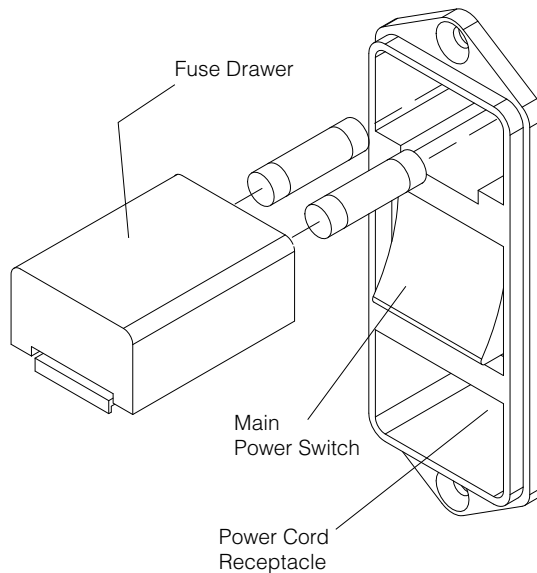

Figure 5-8. Power Connections
1. The power cord connection is located on the upper right corner in the rear of the unit (see Figure 5-8).
2. Determine which power cord you need (this will be based on your country and outlets available in your lab). A 120V power cord with (2) 1.6 amp fuses and 240V power cords with (2) 0.63 amp fuses are provided with the unit.